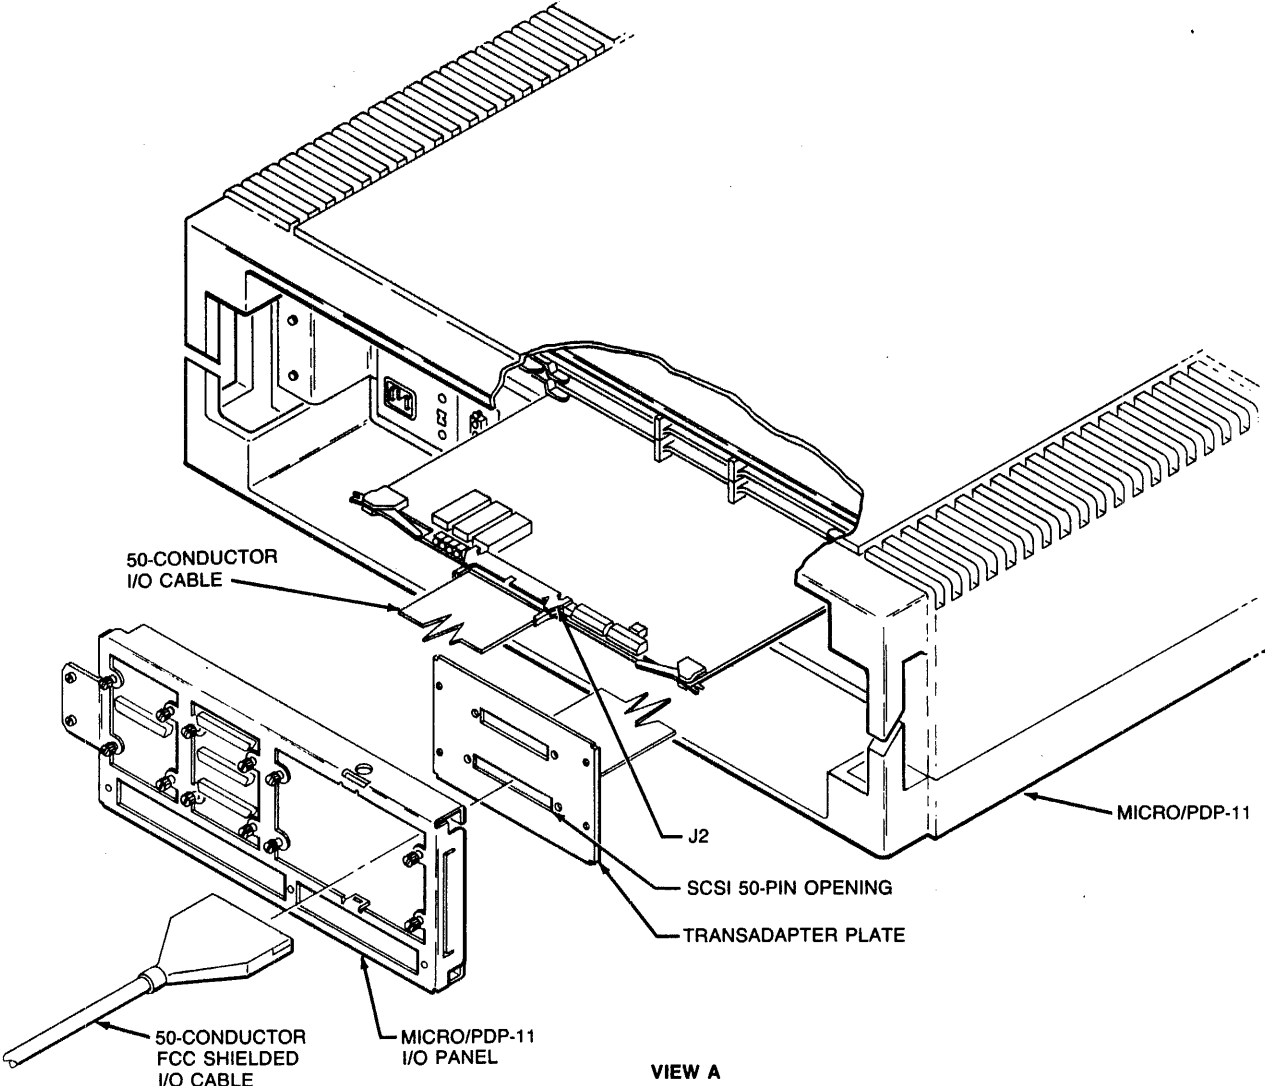

Figure 3-7. Cabling the UC03, View A
Figures 3-7 and 3-8 show four views of cabling the UC03. The main illustration in Figure 3-7 represents typical cabling for the UC03 with a DEC system, in this case a MICRO/PDP-11.
- Figure 3-7, View A shows the MICRO/PDP-11 Cabling Kit used with a MICRO/PDP-11 and a DEC patch panel.
3. Attach the transadapter plate to the patch panel or mounting frame with the supplied screws and a Phillips-head #0 screwdriver. See Figures 3-7 and 3-8.
4. Connect one end of the SCSI round shielded cable to the 50-pin opening in the transadapter plate. See Figures 3-7 and 3-8.